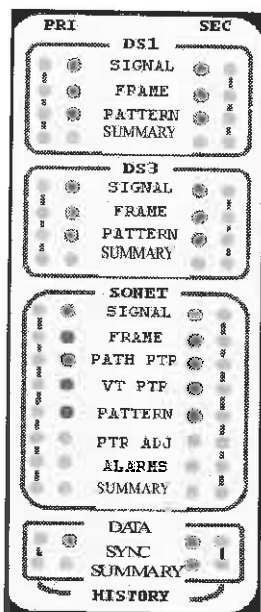

Figure 7 — LED display for Current/History signal alarm
The Current/History error LED display panel illuminates to visually display the performance of the test being performed. Figure 7 depicts the LED display panel.
*Your LED panel may be a subset of the one in Figure 7, depending on what option-equipped 2310 module is purchased. For example, a DS1 Module will not have SONET LEDs.*